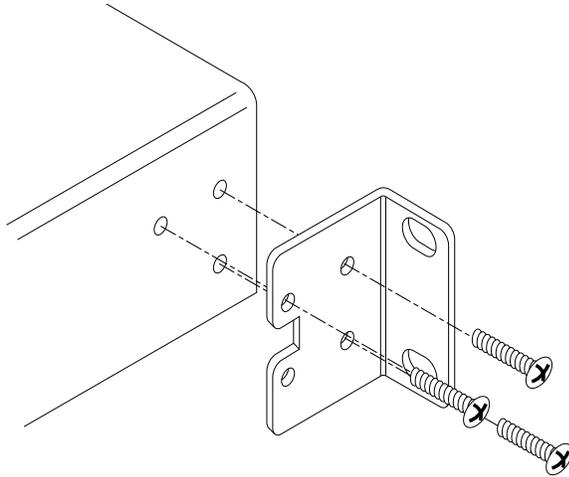
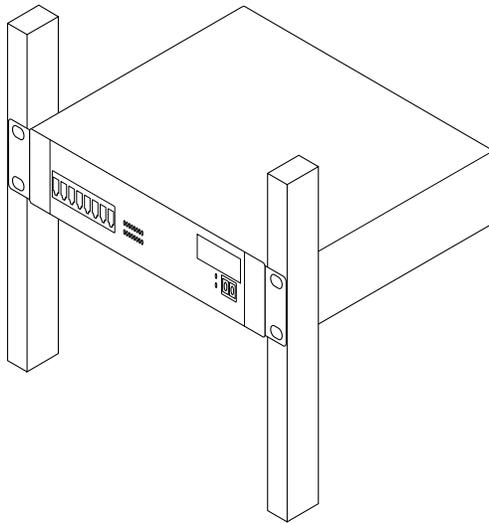

FIGURE 2-1 Positioning Mounting Brackets for Rack Mount
FIGURE 2-2 Rack Mounted SunSwitch
- To mount the unit into an equipment rack, connect the two mounting brackets and install the switch, as shown in FIGURE 2-1 and FIGURE 2-2.